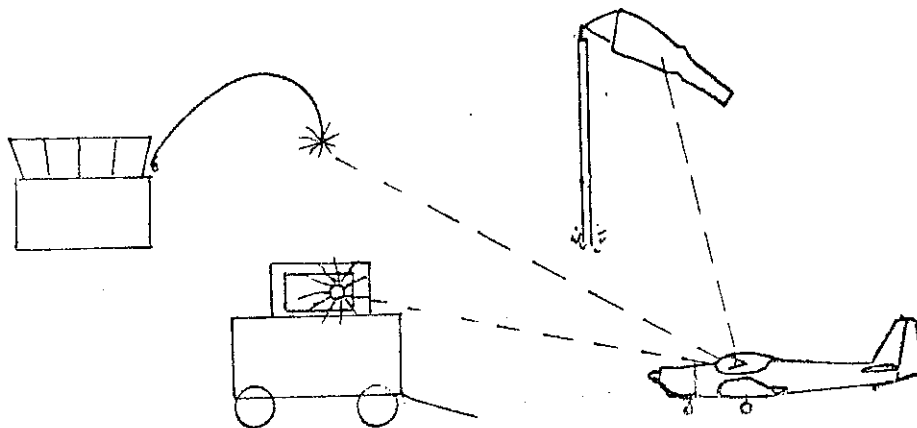

Fig 12.3 Taking off into wind
* Before starting your take-off, check the wind direction and, if there is a caravan, have a look for any last-minute signals (Fig 12.3).